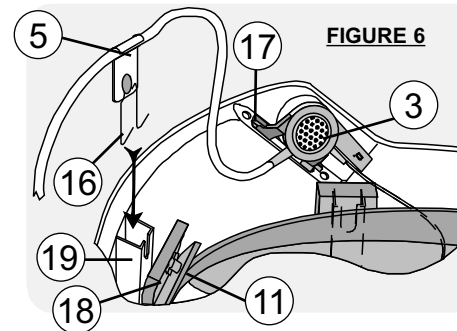

FIGURE 6
Hook the two ends of the stand-off (15) into the openings (17) in the helmet. The loud-speaker (3) must be positioned as shown in figure 6.
In order to secure the bracket for the anti-tearout device (16), take out the headband bracket (11) and cap (18). Insert the anchoring bracket (16) together with the anti-tearout device (5) into the housing (19), making sure that its direction corresponds to the one shown in figure 6.